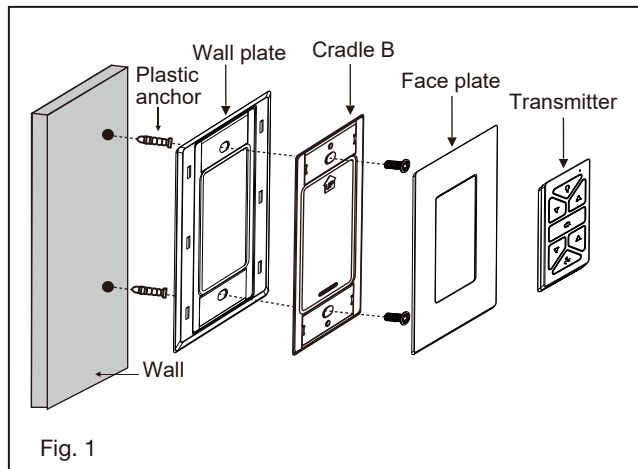

Fig. 1
- 2 While holding the LED assembly under your fan, make the polarized plug connections: (Fig. 1)
- 3 Tuck connections neatly into LED assembly, place the LED assembly to the mounting hub with 3 screws provided. (Fig. 1)
- 4 Raise the light kit cover against the LED assembly and turn clockwise until snug, DO NOT OVERTIGHTEN. (Fig. 1)
- 1 Select a desired location. Use the wall plate to mark the location of the mounting holes. Plastic wall anchors or mounting screws are needed for this application. (Fig. 1)